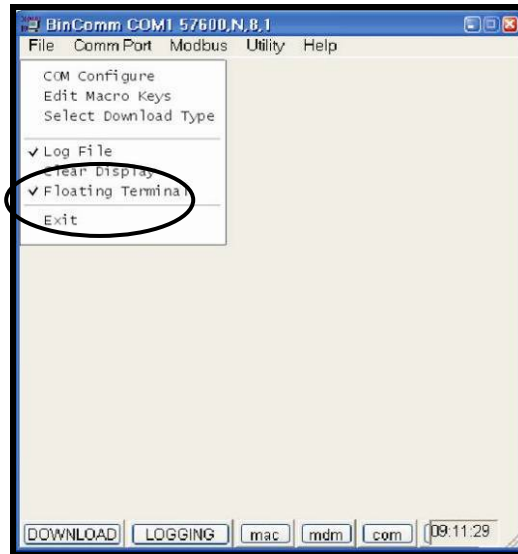

Fig. 7.1: Check Floating Terminal
- 7.2 From the BinComm main menu screen, click on **File > Floating Terminal**. Fig. 7.1